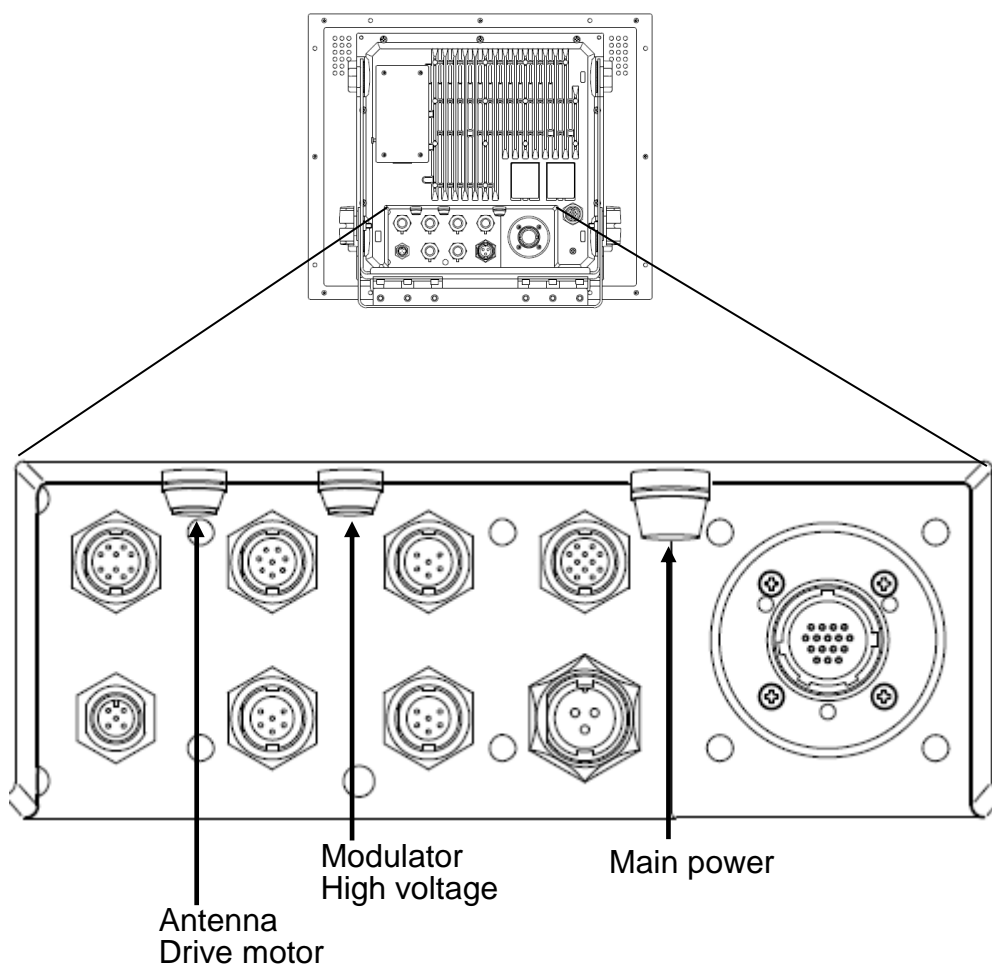

Figure 5.3 Fuse locations on Display unit back panel
1. Turn off the radar and remove the Antenna drive motor fuse according to Figure 5.3.